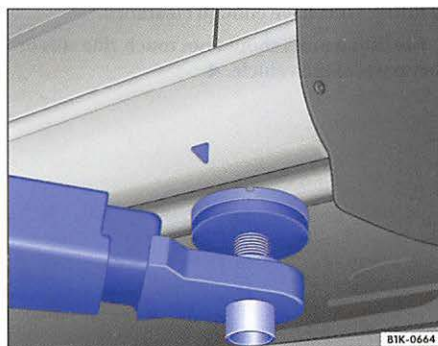
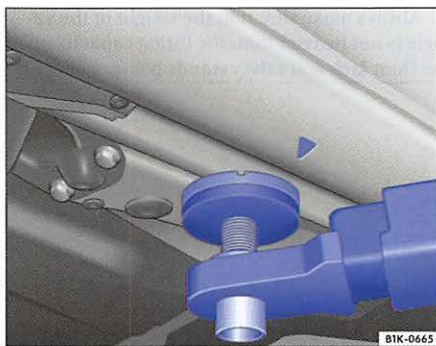

Fig. 165 Front lift point for workshop hoist or floor jack.
Fig. 166 Rear lift points for workshop hoist or floor jack.
The vehicle may only be raised at the lift points shown in illustrations ⇒ fig. 165 and ⇒ fig. 166. If the vehicle is lifted at different points, vehicle damage ⇒ ⓐ and serious injuries may occur ⇒ ⚠.
- Always lift your vehicle only at the designated lift points shown in the illustrations ⇒ fig. 165 and ⇒ fig. 166. Not using the designated lift points can cause the vehicle to fall off the floor jack when heavy parts such as the engine or transmission are removed.